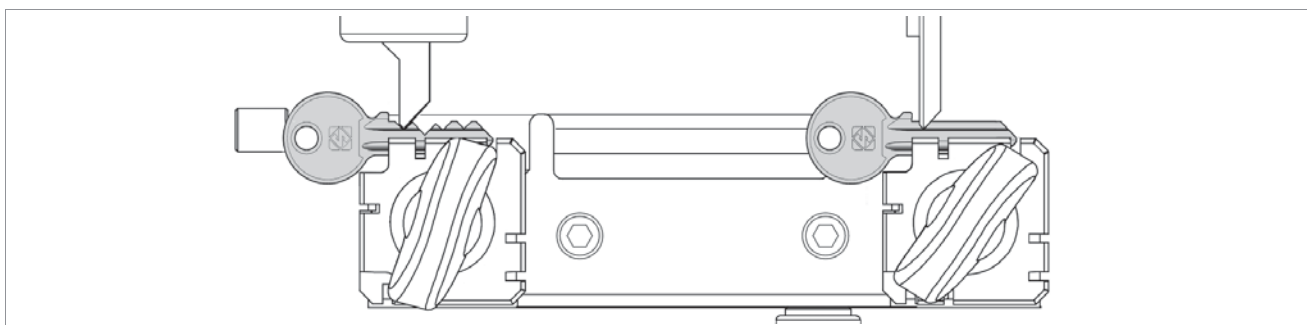

Fig. 24
- 1) Use handle (A) to take the carriage towards the tracer/cutter and hold the tracer against the cut, starting at the key stop (Fig. 24).
- 2) To make a copy of the key, move the carriage from right to left with knob (B). In case of double cuts repeat the operation in the second side of the key.
- 3) Turn off the machine with switch (N) before removing the duplicated key.
- 5) Turn on the machine with switch (N) and smooth off the key edges by means of the brush (M).